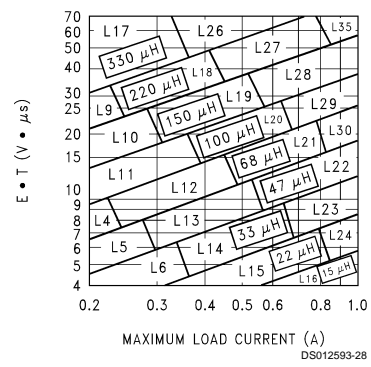

FIGURE 7. LM2598-ADJ
<p>Given:</p> <p>V_{OUT} = Regulated Output Voltage $V_{IN(max)}$ = Maximum Input Voltage $I_{LOAD(max)}$ = Maximum Load Current F = Switching Frequency (Fixed at a nominal 150 kHz).</p> <p>1. Programming Output Voltage (Selecting R_1 and R_2, as shown in Figure 1) Use the following formula to select the appropriate resistor values.</p> $V_{OUT} = V_{REF} \left(1 + \frac{R_2}{R_1} \right) \quad \text{where } V_{REF} = 1.23V$ <p>Select a value for R_1 between 240Ω and 1.5 kΩ. The lower resistor values minimize noise pickup in the sensitive feedback pin. (For the lowest temperature coefficient and the best stability with time, use 1% metal film resistors.)</p> $R_2 = R_1 \left(\frac{V_{OUT}}{V_{REF}} - 1 \right)$ <p>2. Inductor Selection (L1)</p> <p>A. Calculate the inductor Volt • microsecond constant $E \cdot T$ ($V \cdot \mu s$), from the following formula:</p> $E \cdot T = (V_{IN} - V_{OUT} - V_{SAT}) \cdot \frac{V_{OUT} + V_D}{V_{IN} - V_{SAT} + V_D} \cdot \frac{1000}{150 \text{ kHz}} \quad (V \cdot \mu s)$ <p>where V_{SAT} = internal switch saturation voltage = 1V and V_D = diode forward voltage drop = 0.5V</p> <p>B. Use the $E \cdot T$ value from the previous formula and match it with the $E \cdot T$ number on the vertical axis of the Inductor Value Selection Guide shown in Figure 7.</p> <p>C. on the horizontal axis, select the maximum load current.</p> <p>D. Identify the inductance region intersected by the $E \cdot T$ value and the Maximum Load Current value. Each region is identified by an inductance value and an inductor code (LXX).</p> <p>E. Select an appropriate inductor from the four manufacturer's part numbers listed in Figure 8.</p> <p>3. Output Capacitor Selection (C_{OUT})</p> <p>A. In the majority of applications, low ESR electrolytic or solid tantalum capacitors between 82 μF and 220 μF provide the best results. This capacitor should be located close to the IC using short capacitor leads and short copper traces. Do not use capacitors larger than 220 μF. For additional information, see section on output capacitors in application information section.</p>	<p>Given:</p> <p>$V_{OUT} = 20V$ $V_{IN(max)} = 28V$ $I_{LOAD(max)} = 1A$ $F = \text{Switching Frequency (Fixed at a nominal 150 kHz)}$.</p> <p>1. Programming Output Voltage (Selecting R_1 and R_2, as shown in Figure 1) Select R_1 to be 1 kΩ, 1%. Solve for R_2.</p> $R_2 = R_1 \left(\frac{V_{OUT}}{V_{REF}} - 1 \right) = 1k \left(\frac{20V}{1.23V} - 1 \right)$ <p>$R_2 = 1k (16.26 - 1) = 15.26k$, closest 1% value is 15.4 kΩ. $R_2 = 15.4 \text{ k}\Omega$.</p> <p>2. Inductor Selection (L1)</p> <p>A. Calculate the inductor Volt • microsecond constant ($E \cdot T$),</p> $E \cdot T = (28 - 20 - 1) \cdot \frac{20 + 0.5}{28 - 1 + 0.5} \cdot \frac{1000}{150} \quad (V \cdot \mu s)$ $E \cdot T = (7) \cdot \frac{20.5}{27.6} \cdot 6.67 \quad (V \cdot \mu s) = 34.8 \quad (V \cdot \mu s)$ <p>B. $E \cdot T = 34.8 \quad (V \cdot \mu s)$</p> <p>C. $I_{LOAD(max)} = 1A$</p> <p>D. From the inductor value selection guide shown in Figure 7, the inductance region intersected by the 35 ($V \cdot \mu s$) horizontal line and the 1A vertical line is 100 μH, and the inductor code is L29.</p> <p>E. From the table in Figure 8, locate line L29, and select an inductor part number from the list of manufacturers part numbers.</p> <p>3. Output Capacitor Selection (C_{OUT})</p> <p>A. See section on C_{OUT} in Application Information section.</p>